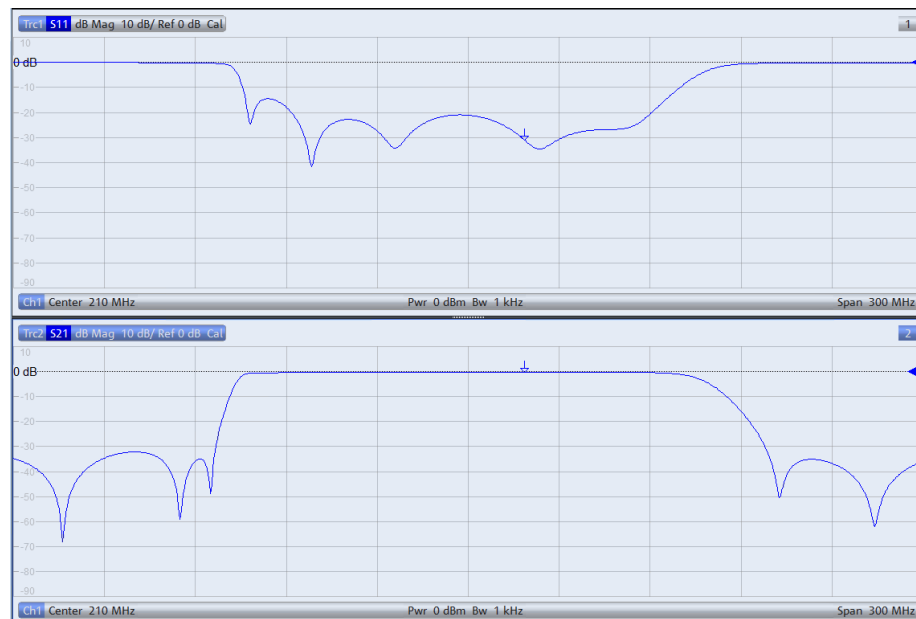

Fig. 2-30: Bandpass filter measurement with display of reflection and transmission.
- The reflection ( $S_{11}$ ) is shown in the upper half of the split screen and the transmission ( $S_{21}$ ) in the lower half ( Fig. 2-30). Press the *SCALE* key and adjust the y-axis scaling as needed.